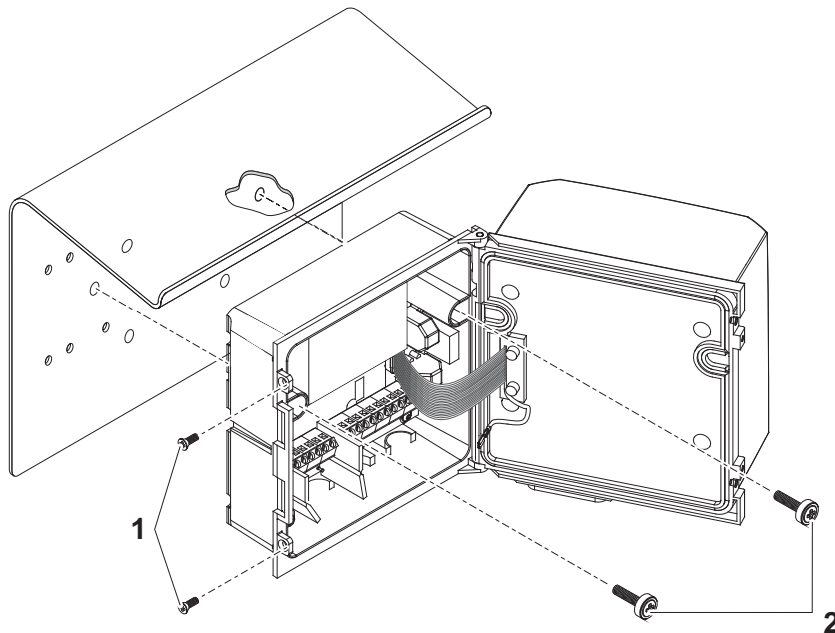

figure 3-7 Mounting the DPM with sun shield SD/K 170
- 1 Remove the two countersunk screws (pos. 1 in figure 3-7) and swing open the module lid.
- 2 Position the DPM controller on the sun shield and fix it into place with the two screws (pos. 2 in figure 3-7).
- 3 Close the lid and fix it with the two countersunk screws (pos. 1 in figure 3-7).